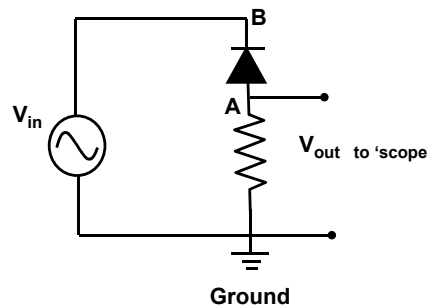

Figure 5 Circuit for measuring the effect of rectification. .
6. Study, then wire up the circuit shown in Figure 5.